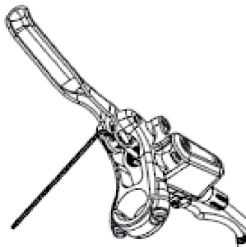

Figure 3-1 Grip Adjustment Screw Adjustment Methods
- ① When using a 2mm hexagonal spanner to make adjustments, turn clockwise to increase the grip distance (up to 100mm), and counterclockwise to increase the grip distance (down to 80mm, as shown in Figure 3-1).
- ② If you turn the 2mm hexagonal spanner after adjusting the grip distance to the maximum (about 100mm) by turning clockwise, the aluminium piston of the brake lever will move forward and the handle will be easily pressed (the braking force will be increased at this time), but it may cause the function of the automatic oil replenishment to be ineffective.